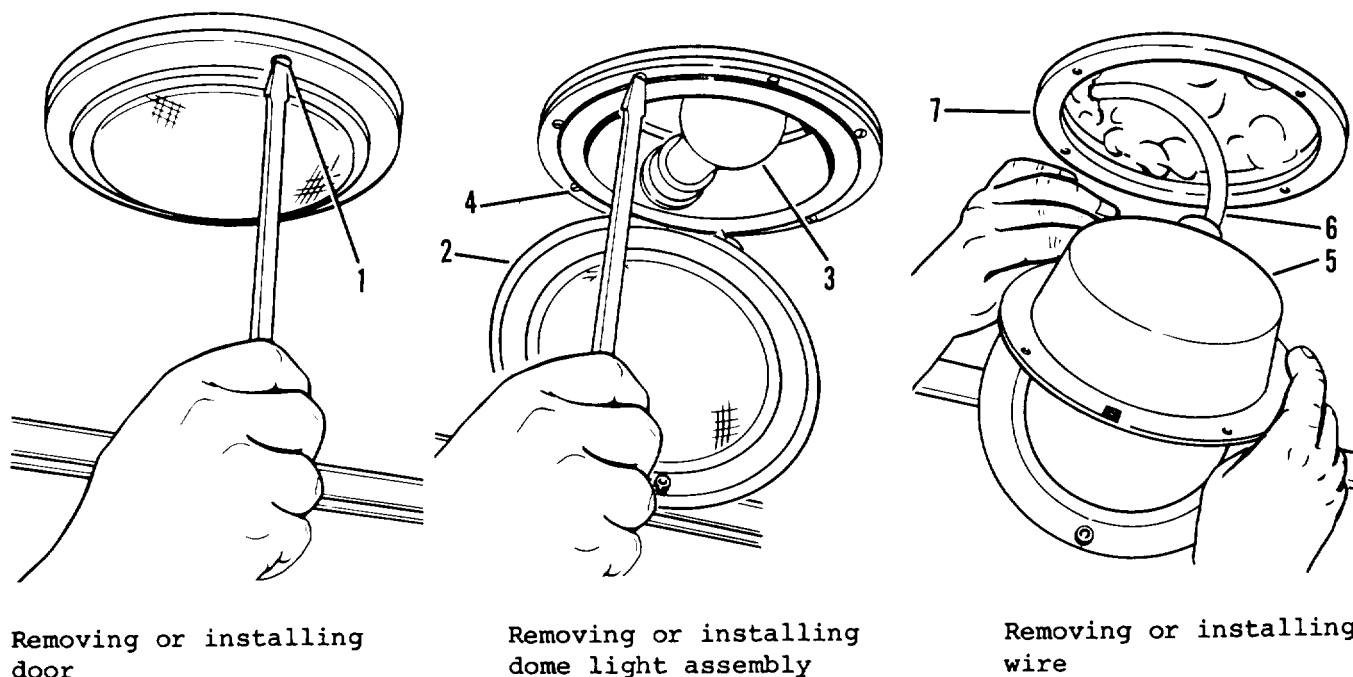

Figure 4-10. 110 volt dome light assembly replacement
- (1) Loosen captive screw (1, figure 4-10) securing door (2). Swing door (2) down.
- (2) Remove lamp (3) to prevent damage. Remove four screws (4) securing light assembly (5) to ceiling.
- (3) Remove light assembly (5) and shim (7) from ceiling. Disconnect wire (6).
- (1) Connect wire (6, figure 4-10).